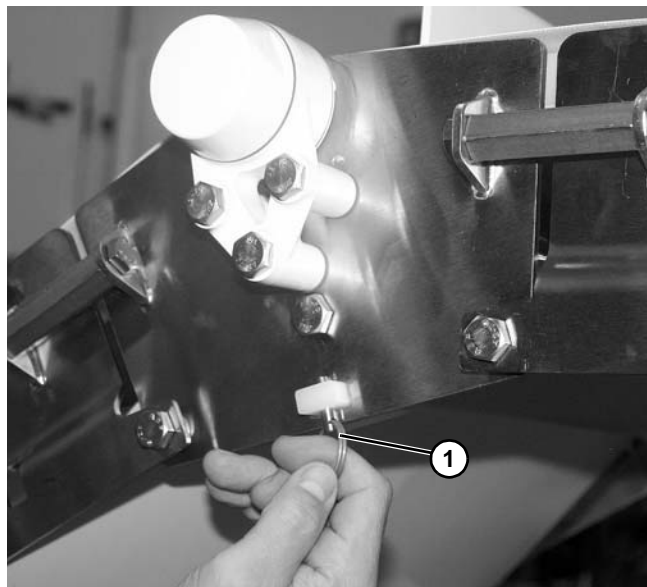

Figure 198
1. Remove pull pin (**Figure 198, item 1**) securing roller guard to upper knuckle plate.